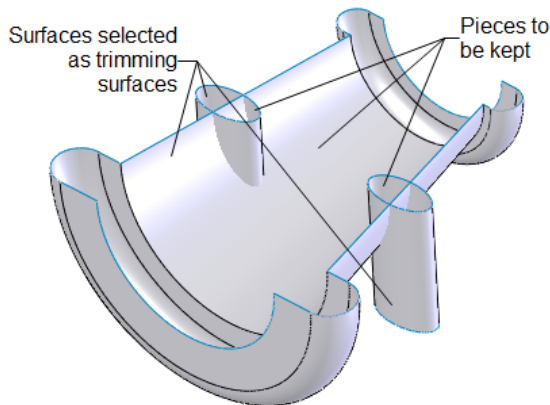

Figure 1-123 Surfaces selected for trimming
- Select the **Mutual** radio button from the **Trim Type** rollout and then select the surfaces, refer to Figure 1-123.
- Next, click in the **Keep selections** box to invoke the selection mode. Next, select the pieces to be kept, refer to Figure 1-123.